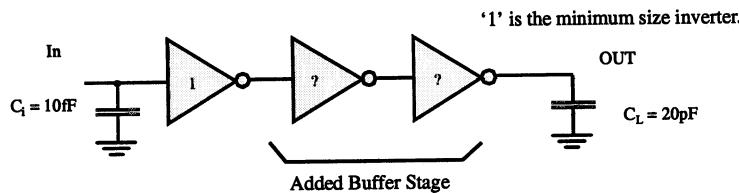

Figure 5.12 Buffer insertion for driving large loads.
- a. In order to drive a large capacitance ($C_L = 20 \text{ pF}$) from a minimum size gate (with input capacitance $C_i = 10\text{fF}$), you decide to introduce a two-staged buffer as shown in Figure 5.12. Assume that the propagation delay of a minimum size inverter is 70 ps. Also assume